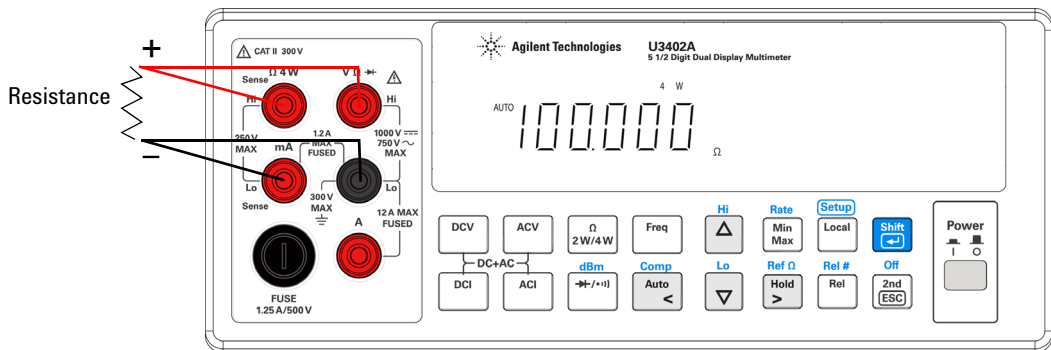

Figure 3-6 Terminal connection when measuring resistance using 4-wire mode
- 1 Connect the red and black test leads to the resistor and probe the test points as shown in Figure 3-6.